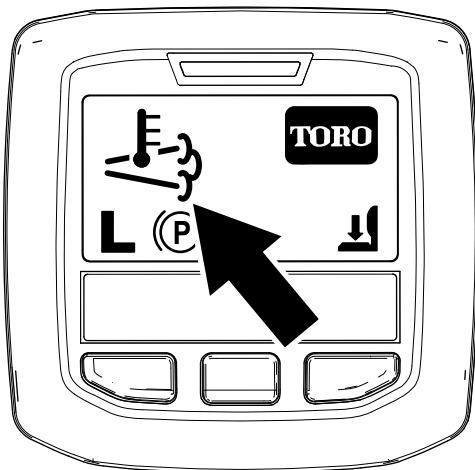

Figure 47
- The high exhaust-temperature icon  displays in the InfoCenter (Figure 47).